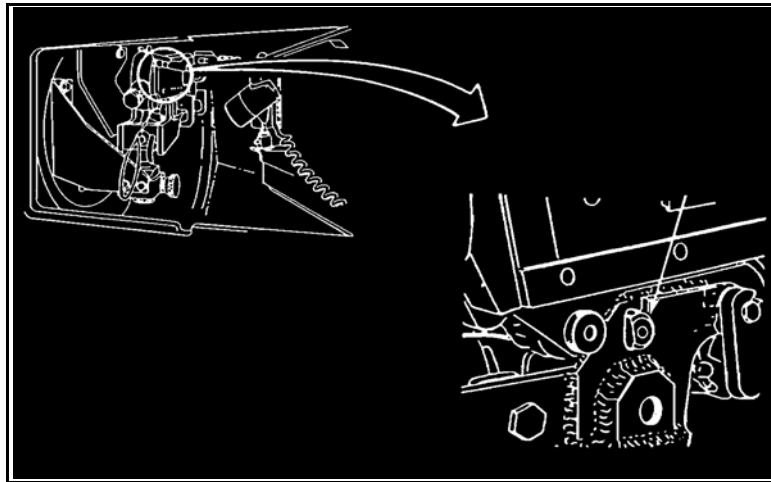

Figure 2. Manual safety.
- (1) Pull charger handle back firmly.
- (2) Push manual safety through to “S” position (Figure 2).